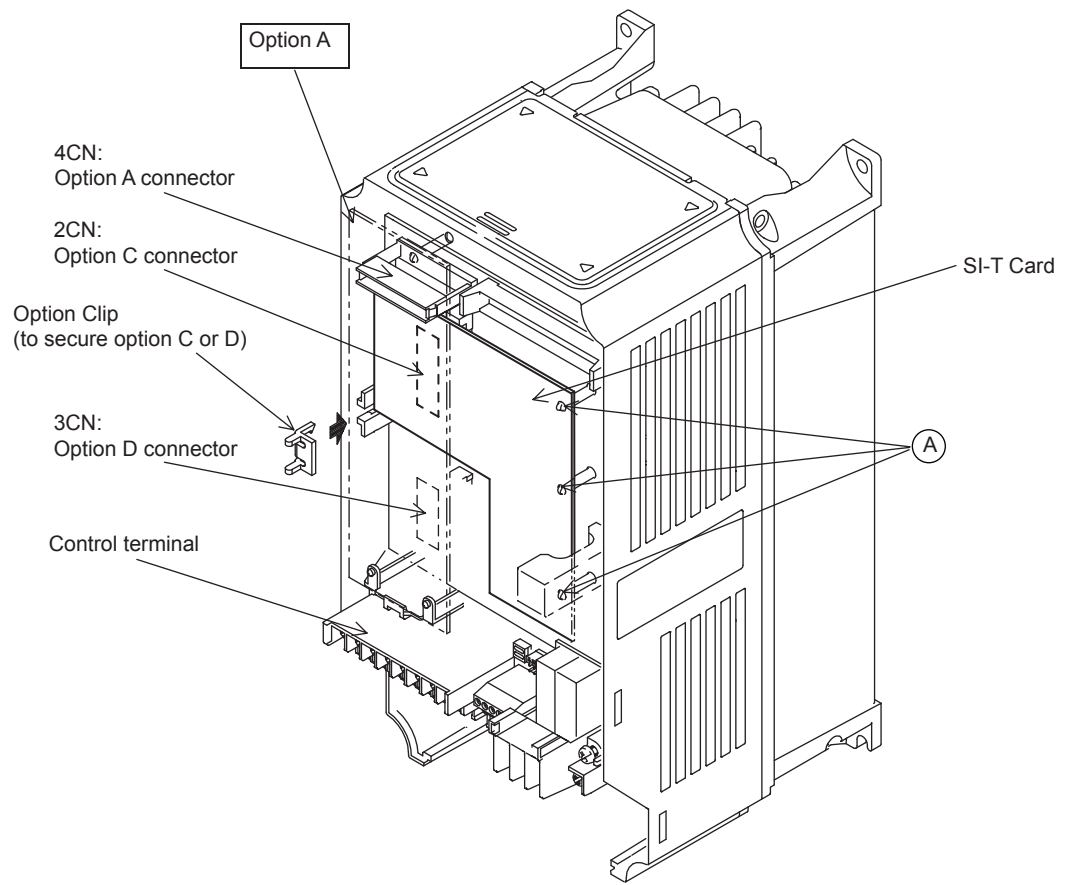

Fig. 1 Installation of the SI-T Card
4. Install the SI-T Card on the option C connector 2CN (60 pins) on the Inverter control board. Secure the Card by inserting the spacers on the control board into the spacer mounting holes (three holes) of the Card until hearing a "click." (Refer to A in Fig.1.)